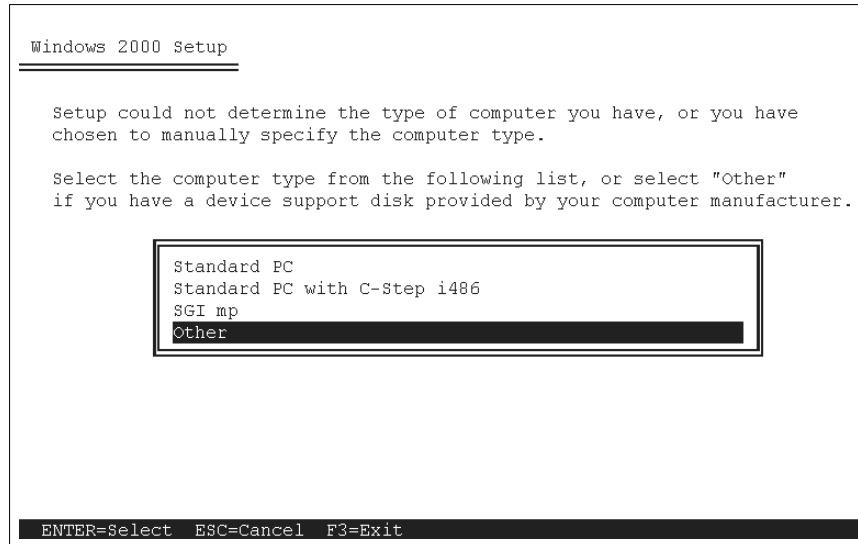

Figure 4-3 Installing IBM custom HAL
4. When you are prompted to select the Computer Type, as shown in Figure 4-3, select **Other** and press Enter.